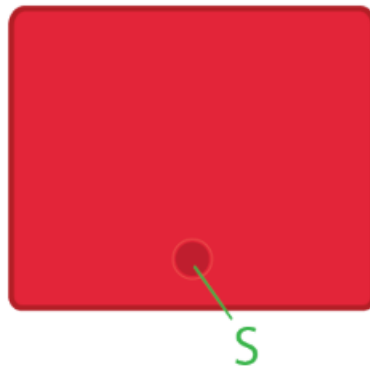

Fig.2/
- **O (O1):** Load circuit output terminal (1)
- **S:** S button (Fig.2)